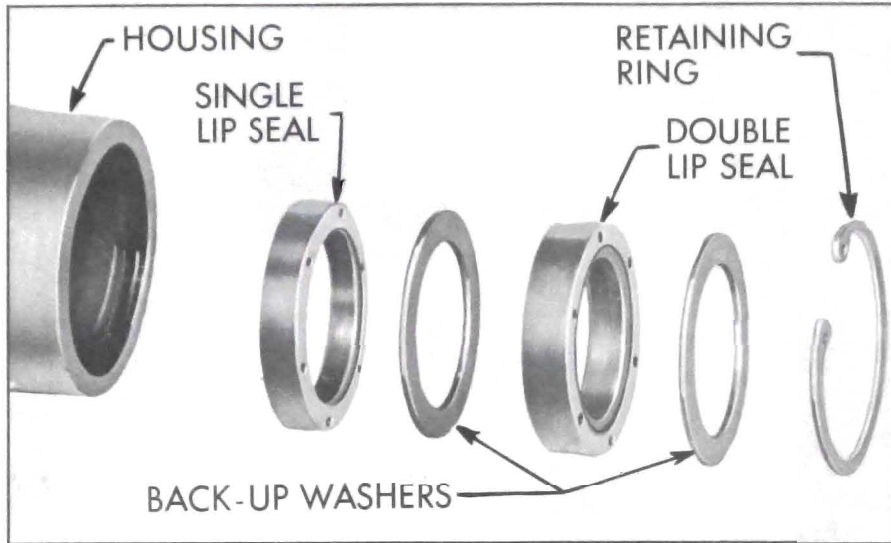
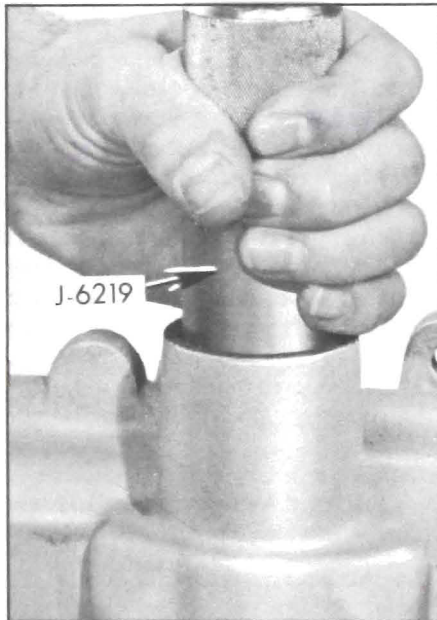

Figure 8-50—Pitman Shaft Seals
Figure 8-51—Installing Pitman Shaft Seals
2. Lubricate new pitman shaft seals in automatic transmission oil. Install the inner, single lip seal in bore first, then a back-up washer. See Figure 8-50. Using Tool J-6219, drive the seal and washer in far enough to provide clearance for the outer seal, back-up washer and retaining ring. See Figure 8-51. The inner seal must not bottom on the counterbore. Install the outer double lip seal and the second back-up washer in bore only far enough to